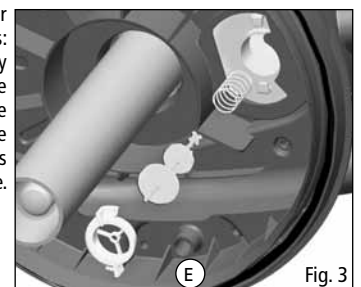

Fig. 3
- 1) remove the retaining flange (S) by rotating it counter-clockwise (the Mode Selector Switch (O) must be set to the “Filtering Mode” position),
- 2) remove the indicator and its spring. Rinse all parts in water and reassemble them with care. (Fig. 3 - Fig. 4)